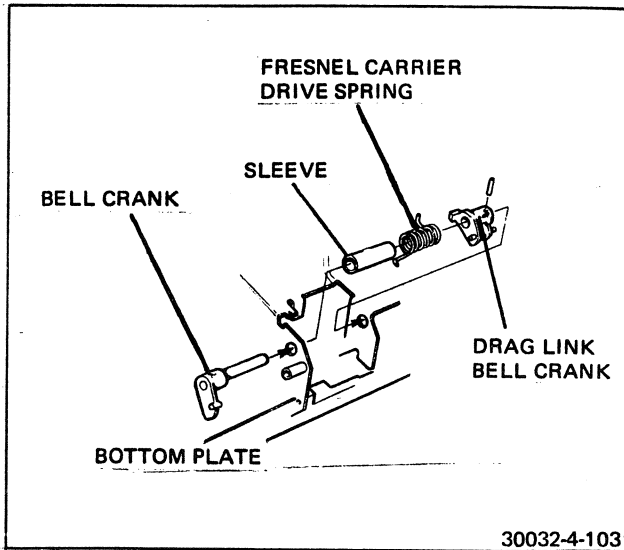

FIGURE 4-103 INSTALLING FRESNEL CARRIER DRIVE SPRING
53. Engage the hook on the end of the Fresnel-carrier drive spring with the notched blade of the modified jeweler's screwdriver. See Figure 4-103.